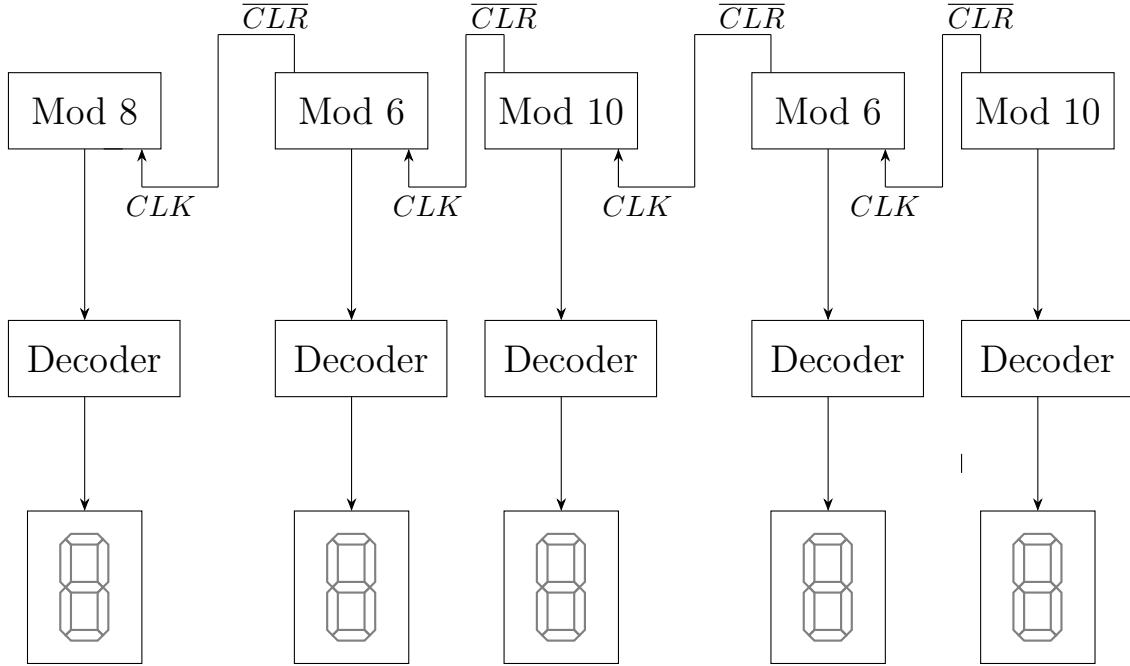

Figure 4: Block Diagram of Circuit
- The ICs were connected in the way shown in Fig.4 to complete the circuit and the  $V_{cc}$ , ground, and initial clock were provided by the Arduino board.